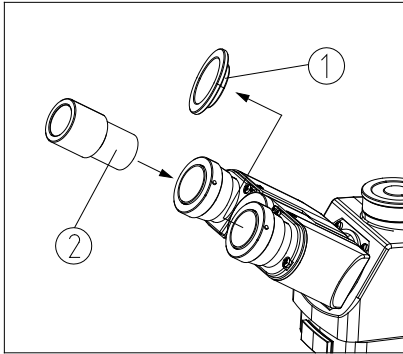

Figure 7
1. Remove eyepiece tube covers ①.
2. Install the eyepieces ② into the tubes. (Figure 7)